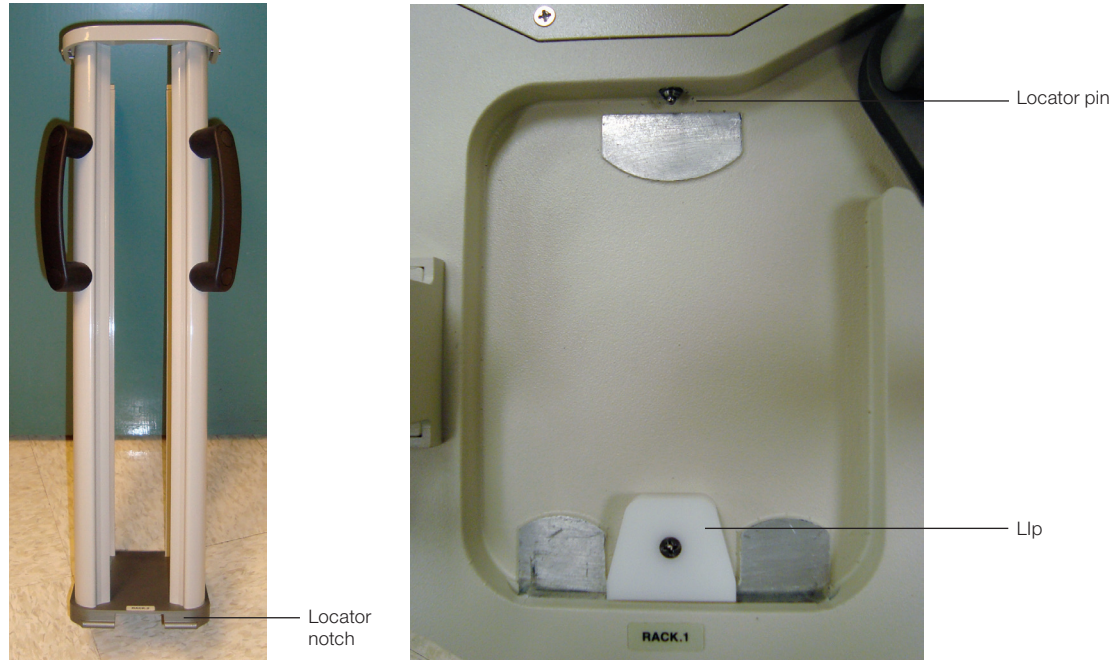

Fig. 9. Rack securing position.
4. Place the rack locator notch under the lip of the rack position (Figure 9).